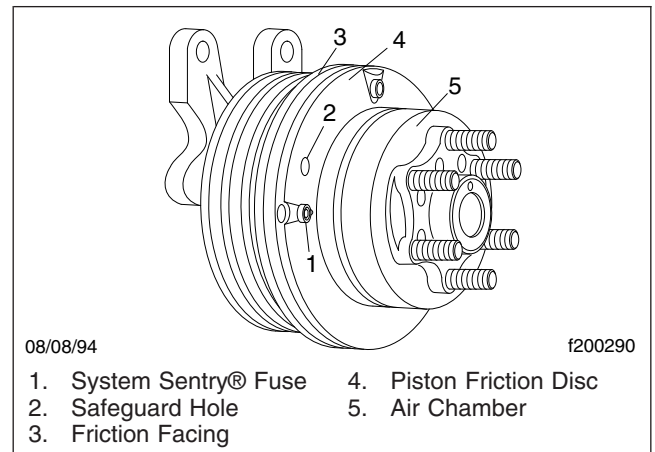

Fig. 7, Horton Advantage Fan Clutch
6. Check for wear on the friction facing. See Fig. 7. Replace the friction facing if it is worn to a 1/16-inch (1.6-mm) thickness or less. Also check the facing for signs of oil contamination or burn marks. If evidence of oil or burn marks are found, replace the friction facing.